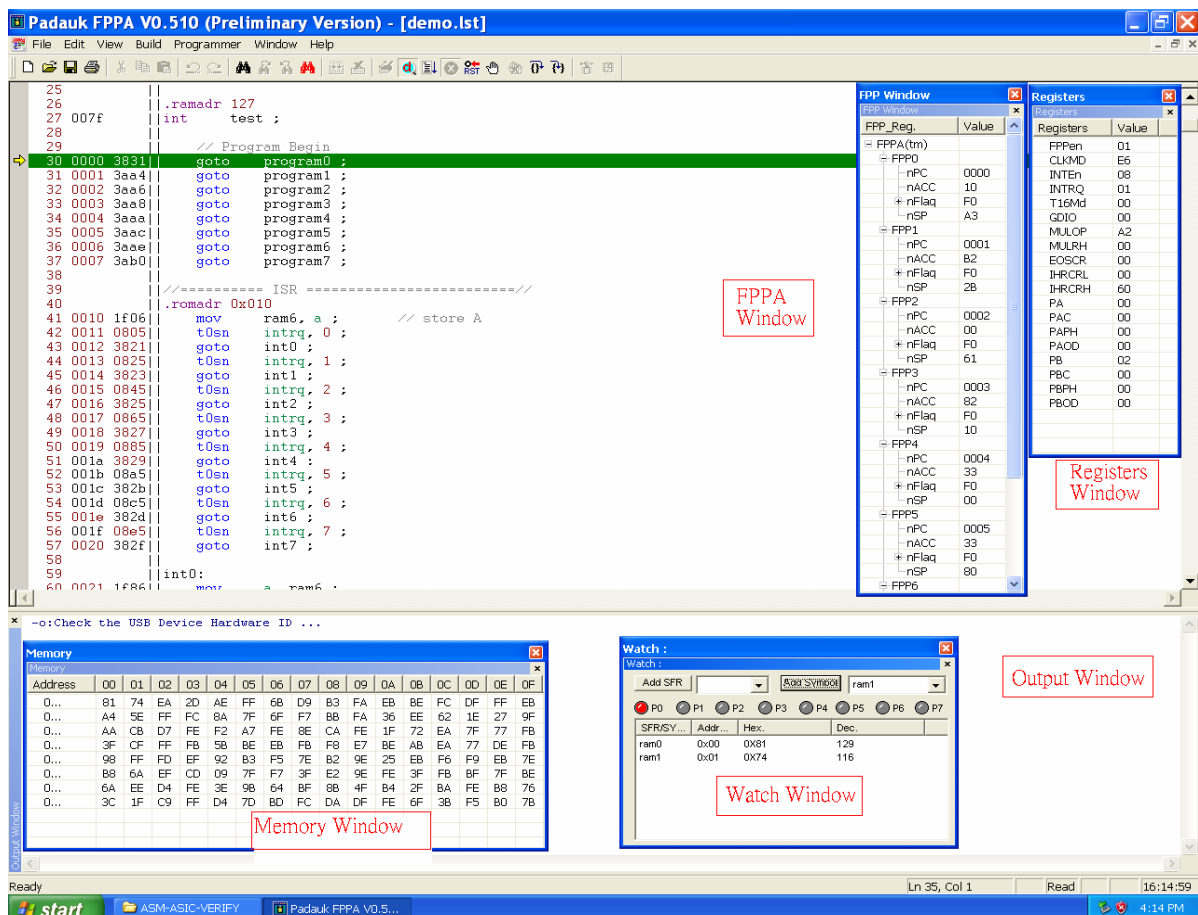

Fig.4-4 : Window for Debug Mode
Step 3 : Click  to start the debug mode and open the list file (DEMO.lst) . Besides "Output Window" , "FPPA Window" 、"Registers Window" 、"Memory Window" and "Watch Window" can be selected from "View" menu , in order to debug the program easily , the screen will be like Fig.4-4 if all the windows are opened . The "FPPA Window" shows the status for each FPP unit , the "Registers Window" shows the status of registers inside the chip , the "Memory Window" shows the value of internal data memory and the "Watch Window" is used to monitor the value of selected names which are specified by user . In the "Watch Window" , you can monitor that the current breakpoint belongs to which FPP unit . The program halts at the reset vector after entering the debug mode , a green line with yellow arrow indicates where the program counter is .